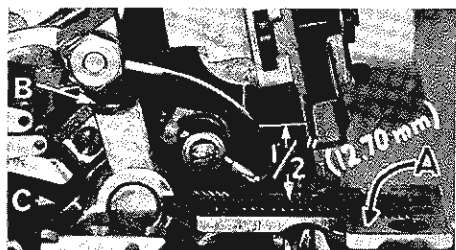

Fig. 3
With throat plate assembled in position, needle should center in the front end of needle slot. When needle is at high position, needle point should be set $\frac{1}{2}$ inch (12.70 mm) above throat plate (A, Fig. 3) for Styles 39500 QA, QB, QP, QY, RF, RM, RS, SE, SG, TA and TD; $\frac{15}{32}$ inch (11.91 mm) for Styles 39500 RA, RR, SF and TH. To align needle or set the height above the throat plate, move needle driving arm (B, Fig. 3) by loosening clamp screw (C). After needle has been set properly, tighten screw (C) and remove throat plate.